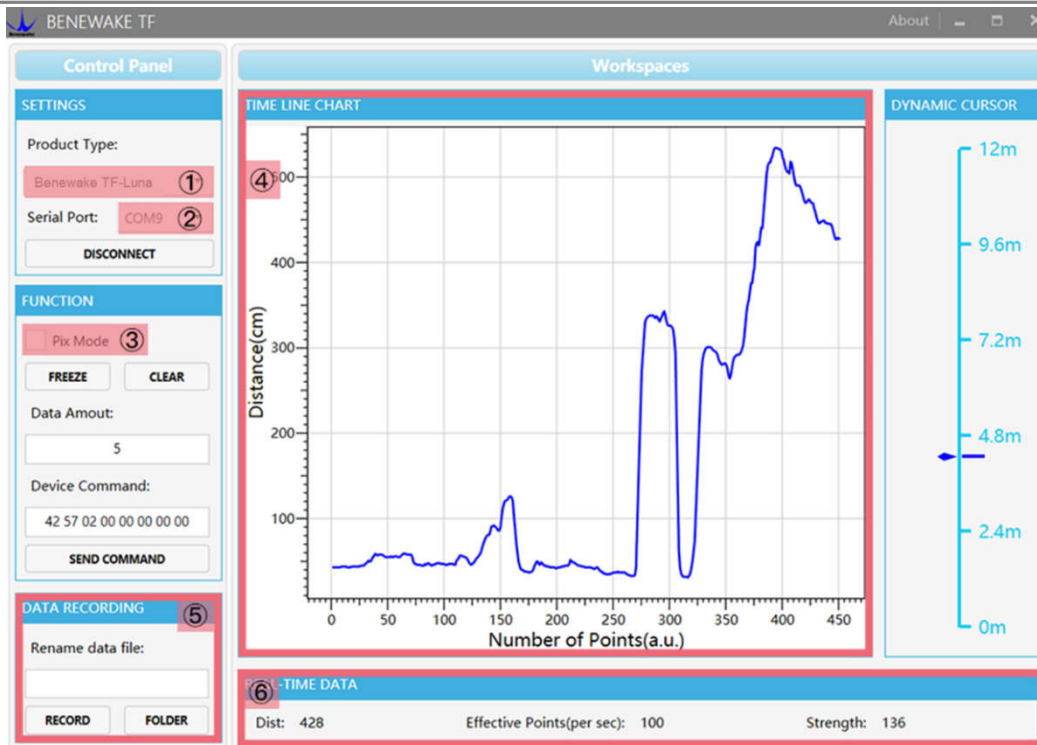

Figure 10 PC software Interface and Display
- ③ Open your test software and check data output
Open the PC software and select "① TF-Luna" and select automatically recognized occupied serial port (in this case "② COM9") as shown in Figure 10.